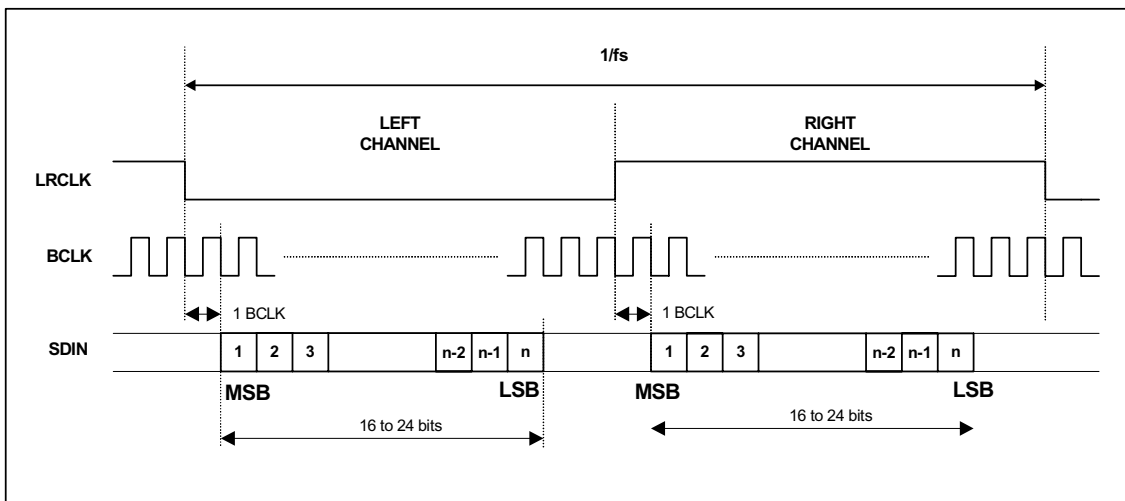

Figure 9 I²S Data Output (OFSEL [2:0] = 001)
The NRZ 28bits data output contains 4 bits validity (V), user data (U), channel status (C), preamble B (indicated by Z) and 24bit LSB left justified base audio data. When preamble B is confirmed Z-bit outputs high in that frame, Figures 9 and 10.